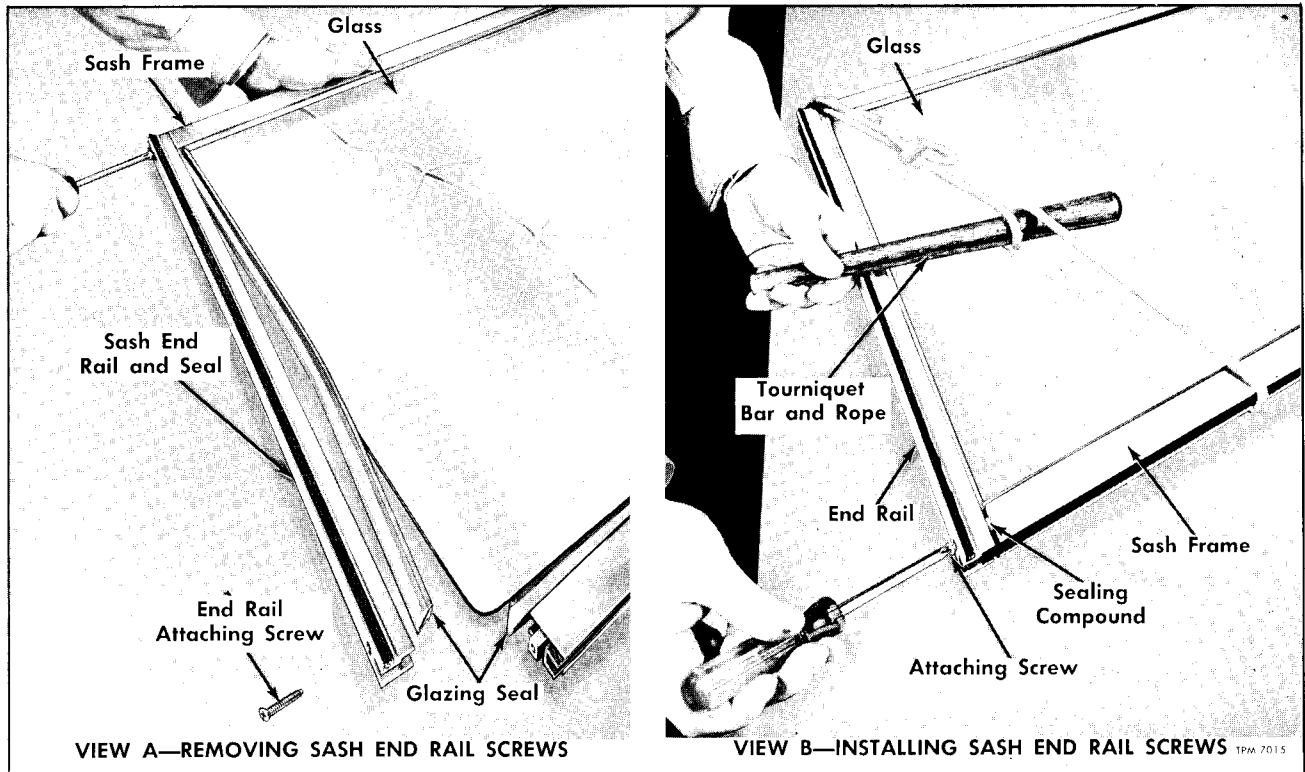

Figure 11—Replacing Sliding Section Glass (Typical)
4. To disassemble sash and glass sections, remove screw (View A, fig. 11) at upper and lower end of section vertical-slanting end rail. Remove end rail, then carefully remove broken glass and glazing rubber from sash.
3. Using a strong cord as a tourniquet to press sides of frame into position as shown in View B, figure 11, install vertical-slanting end rail to sash with attaching screws.